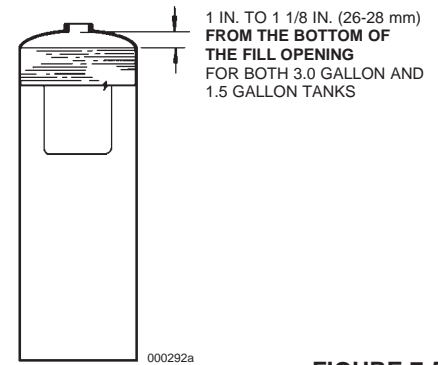

FIGURE 7-5
- 10. Fill each tank with 1.5 gal (5.8 L) or 3.0 gal (11.6 L) of ANSULEX Low pH Liquid Fire Suppressant. See Figure 7-5. **Note:** Use a funnel with a screen to stop any foreign material from entering the tank. See Page 5-3, Figure 5-6, for additional detailed filling instructions.